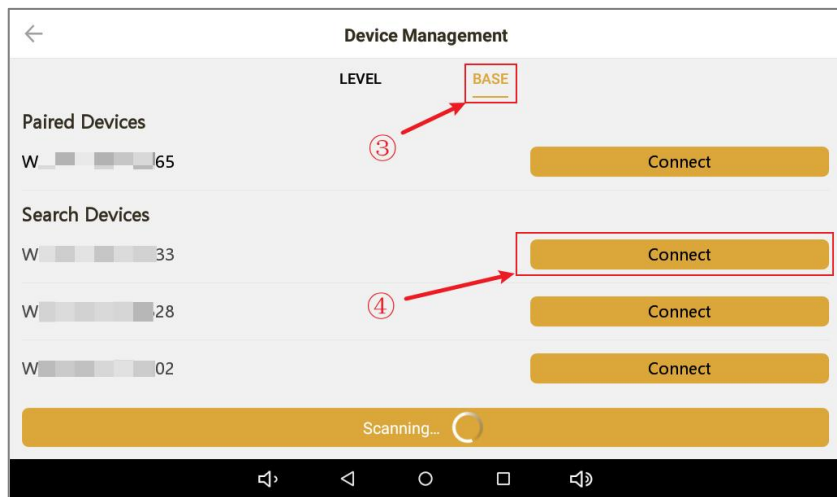

Figure 3-4
- ② Connect to the base station via Bluetooth: Tap Bluetooth again. This time, as shown in Figure 3-4, switch to the BASE tab, then tap Connect next to the corresponding SN number. The base station SN is printed on the device label.